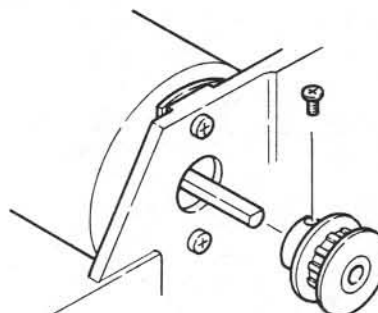

Fig. 11
- * Fix the flat part of Motor shaft. Refer to Fig. 11.